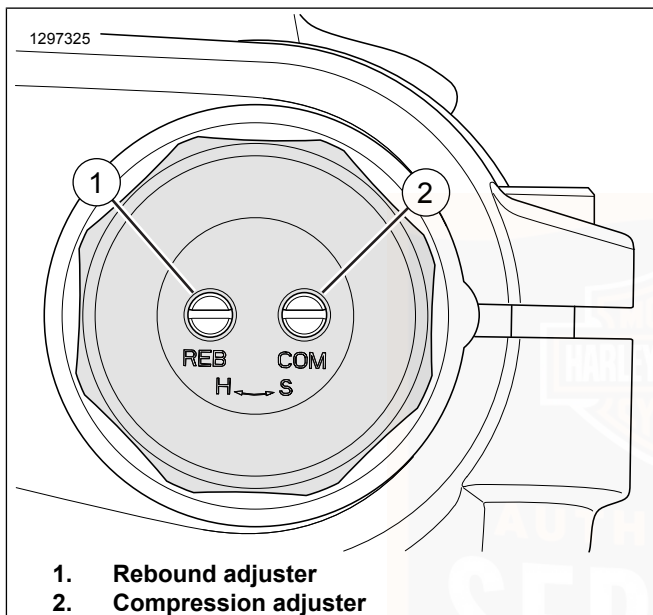

Figure 22. Rebound and Compression Damping Adjustment
The rebound and compression screws (1 and 2) are located on the right fork tube. See Figure 22.
1. See Figure 22. Turn rebound adjuster (1) screw clockwise in the H (hard) direction until it stops. This is the maximum rebound damping setting.
2. Turn rebound adjuster (1) counter-clockwise in the S (soft) direction the recommended number of turns. Refer to Table 27.
1. See Figure 22. Turn compression adjuster (2) clockwise in the H (hard) direction until it stops. This is the maximum compression damping setting.
2. Turn compression adjuster (2) counterclockwise in the S (soft) direction the recommended number of turns. Refer to Table 27.